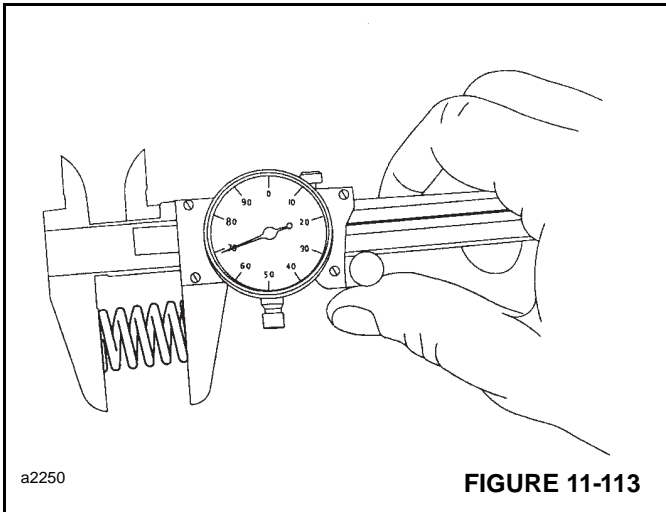

FIGURE 11-113
5. Check the brake spring free length (Figure 11-113). Minimum free length is 30.2 mm (1-3/16 in). Check springs for any sign of cracking or failure. If a brake spring must be replaced, then all brake springs must be replaced.